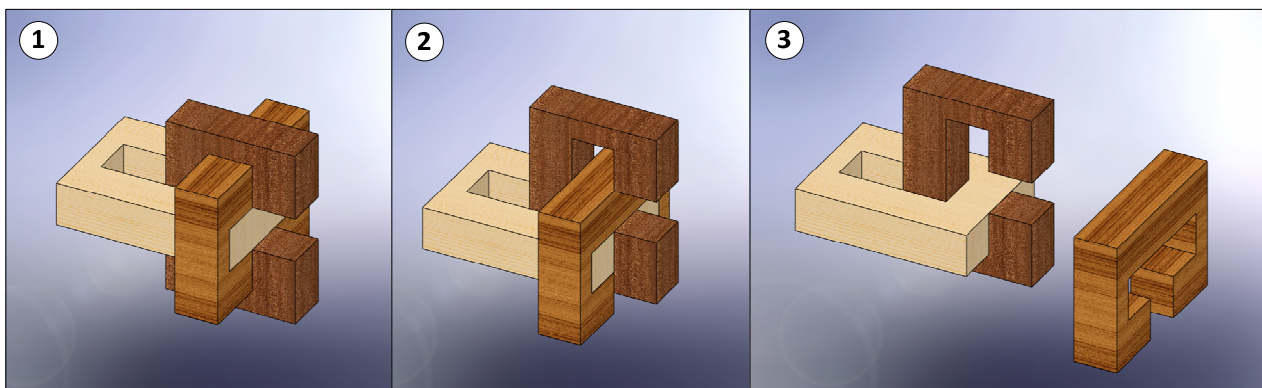

Figure 12: Assembly/disassembly of puzzle directions
- B.** Try fitting the pieces together as shown if Figure 12. If they do not fit together, figure out what is binding and either sand or saw the pieces until they properly fit together.